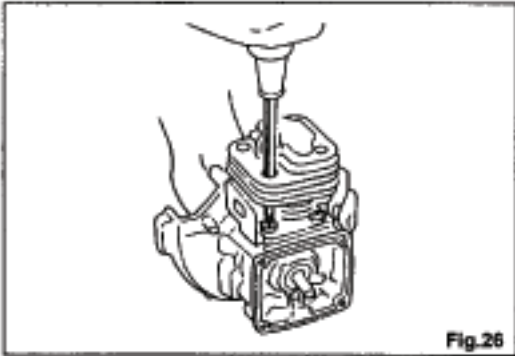

Fig.26
- 4) Remove the screws securing cylinder and pull cylinder off of the crankcase, before installing cylinder apply a thin coat of oil to the piston. Align each piston ring with the locator pin, slowly insert piston into cylinder while compressing the rings in with your fingers. Then install and tighten the cylinder screws. Fig. 26